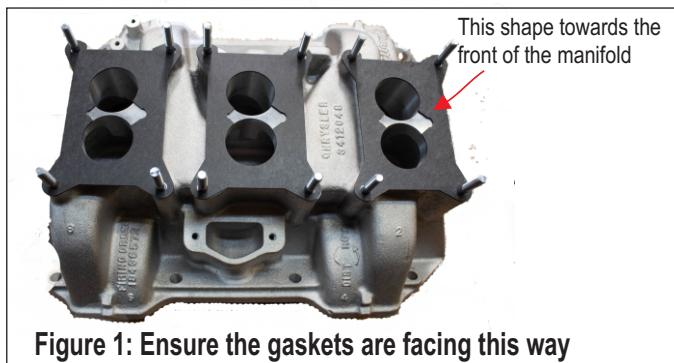

Figure 1: Ensure the gaskets are facing this way
- Place the gaskets on top of the manifold and ensure the larger triangular cut is facing the front (seen in figure 1). Then, place the Go EFI Tri-Power throttle bodies on top of the new flange gaskets on the manifold. Ensure there are no clearance issues before proceeding. Install the washers and hold down nuts, and snug down progressively in a “criss-cross” pattern (120 in/lb or 10 ft/lb). Depending on your application, this is also the time to install your throttle bracket and transmission kickdown brackets. You may be able to re-use the stock style throttle stud or transmission studs from your carburetor.